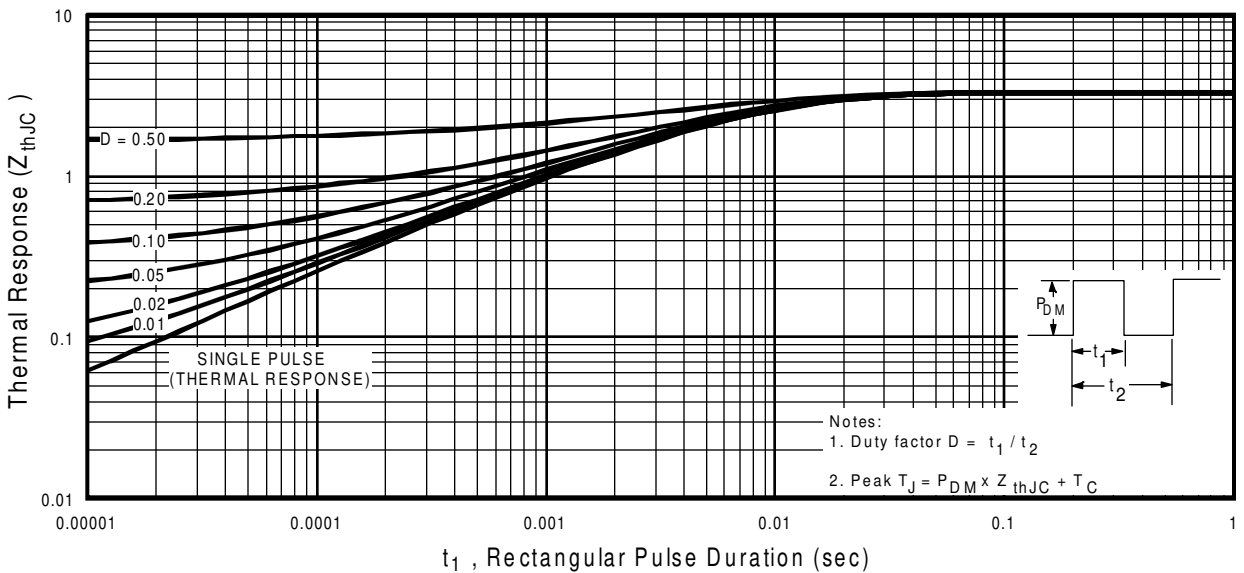

Fig 11. Maximum Effective Transient Thermal Impedance, Junction-to-Case
① Repetitive rating; pulse width limited by max. junction temperature. (See fig. 11)
② $V_{DD} = 15V$, starting $T_J = 25^\circ\text{C}$, $L = 570\mu H$